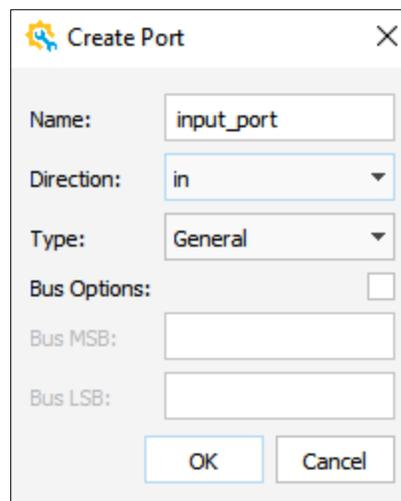

Figure 2.70. Create Port Dialog Box
- a. Right-click in the Schematic view and choose **Create Port**. The Create Port dialog box pops up (Figure 2.70).